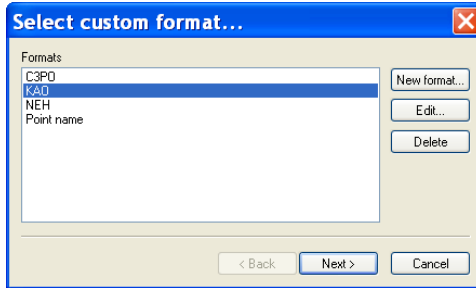

Figure 2-4. Select Format Type
- On the **Select custom format** dialog box, select the format type and click **Next** (Figure 2-4). See “Creating Custom Import/Export Formats for Text Files” on page 2-13 for details on creating or editing import formats.